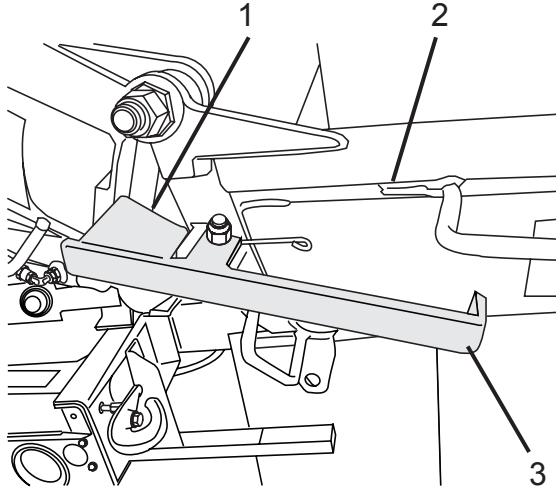

Figure 135
As the chute is unfolded, the fold-over stop tab (Figure 135, Item 1) will make contact with the main chute, preventing the chute from slamming down against the main chute.
1. Support the fold-over chute (Figure 135, Item 2).
2. Depress the handle (Figure 135, Item 3) until the stop tab (Figure 135, Item 1) clears the main chute, and lower the fold-over chute.